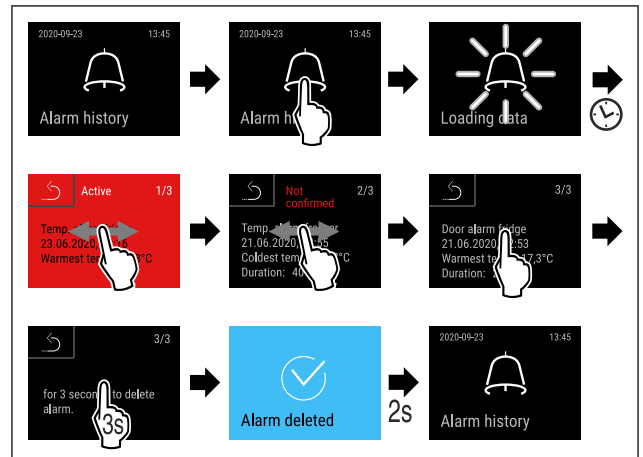

Fig. 165
- ▶ Complete steps (see Fig. 165).